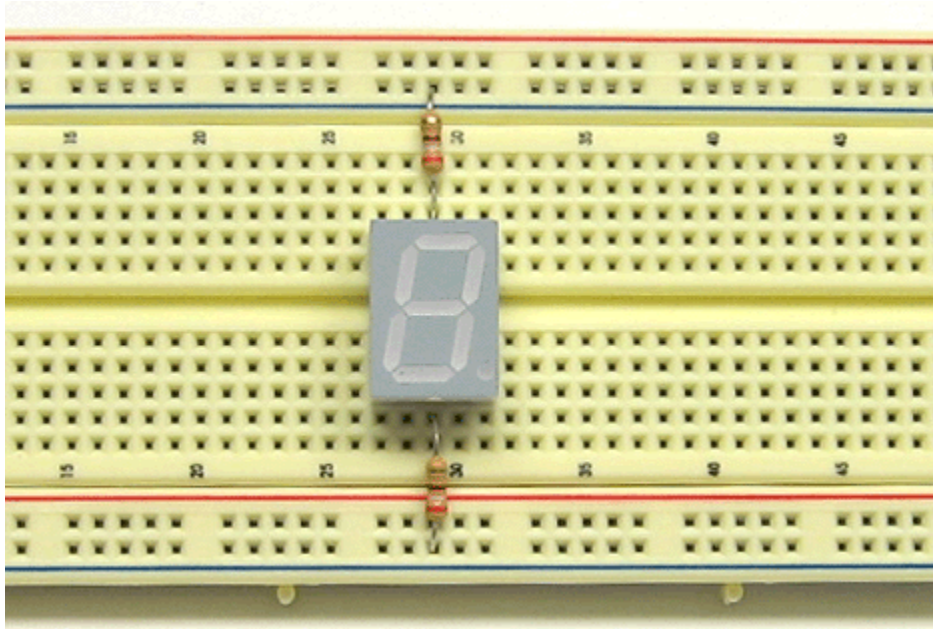

Figure 16. Resistors connecting seven-segment display to ground.
2. Insert a 390-Ohm resistor into the breadboard, connecting hole B29 to ground, as shown in the video and in Figure 16.